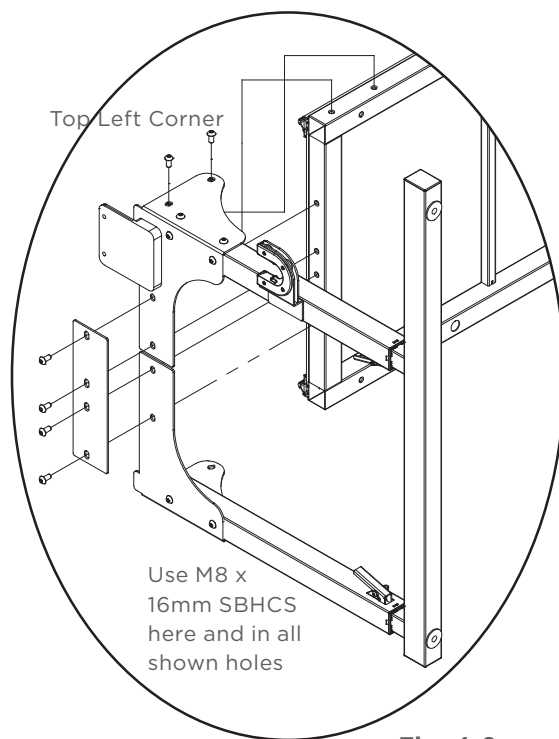

Fig. 4-2
4-3: Starting at the top left corner, screw two (2) M8 X 16mm SBHCS down through the top corner Left Frame Side Front piece into the table frame Fig. 4-2, **finger-tighten** only.
4-4: Align the Frame Side Coupler to the holes in the Left Frame Side Front and the Left Frame Side Back and screw four (4) screws thru the Coupler, the Frame Side and into the Table Section Fig. 4-2.